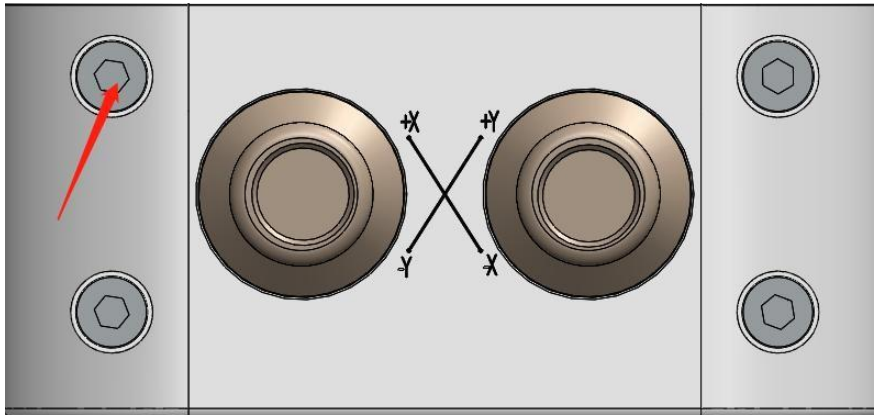

Figure 4.7
① As shown in Figure 4.7, loosen the four M4×16 hexagon socket anti-falling screws, and pull out the focus lens cartridge.